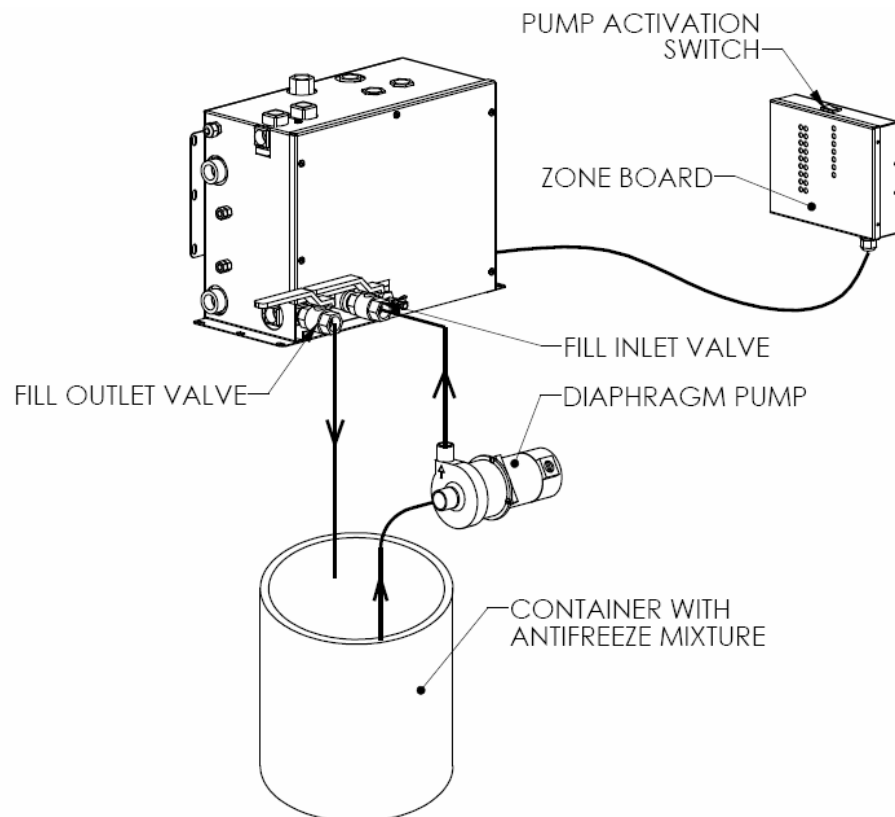

Figure 24: Initial fill up Oasis system
2. Remove the air filter (see Figure 24) from the hose that is connected to the air inlet of the air compressor (using a pair of pliers on the hose clamps).
1. Connect a hose to the outlet of a diaphragm pump and to the “filling inlet” valve on the distribution module. Attach a hose to the inlet of a diaphragm pump and place the hose in a container filled with a 50/50 mixture of propylene glycol and water. (see Figure 24).